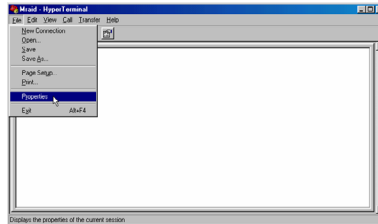

Figure 3.2-6
Step 6. Open the file menu and select "Properties". (Figure 3.2-6)